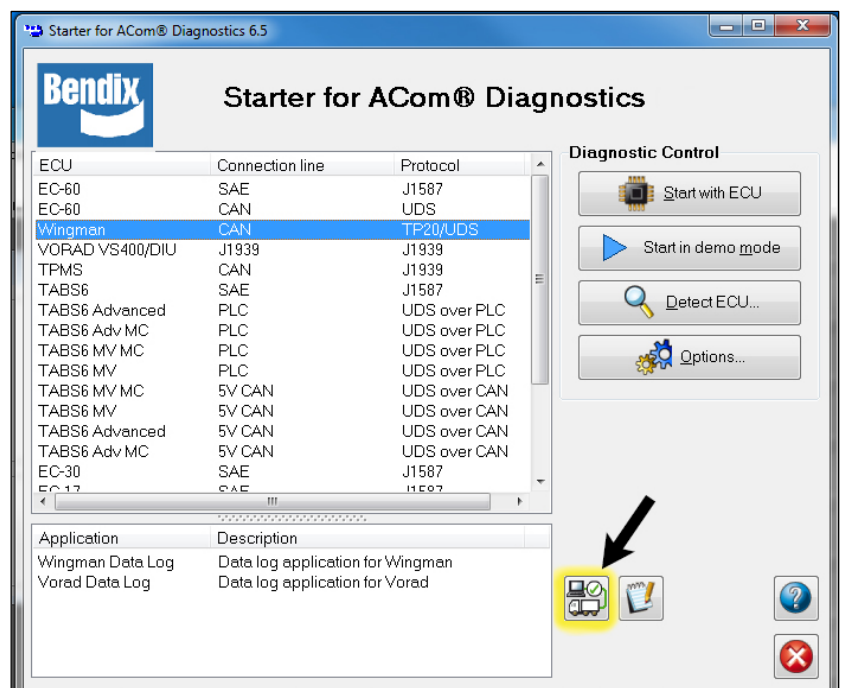

Figure 4
1. The desired communication adapter can be selected by clicking the icon depicting a computer and tractor/trailer. (See the arrow shown on Figure 4.) Select this icon to open the driver selection screen for RP1210 adapters. Check the box next to the adapter you will use, then press the green checkbox to confirm.
See Figure 4.